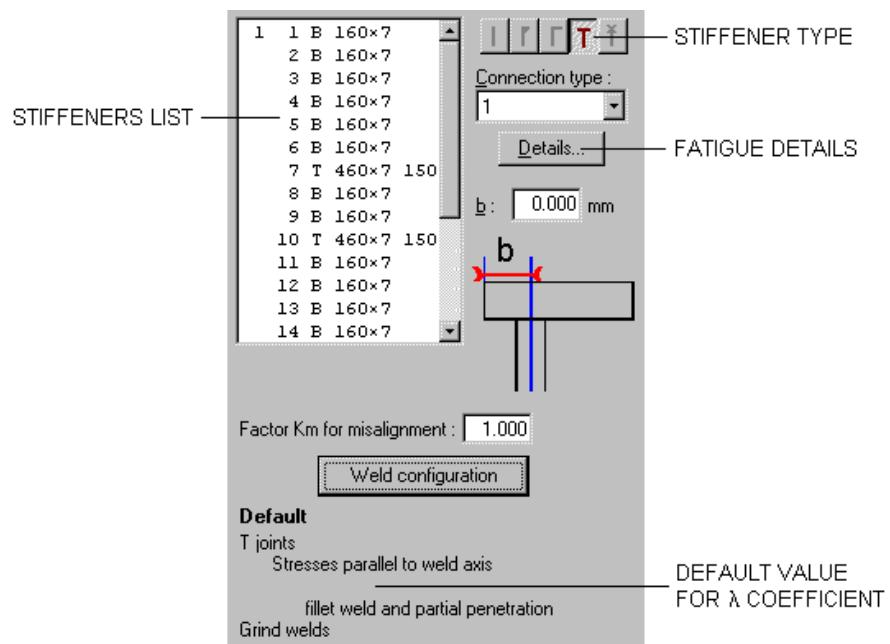

Figure 42: FATIGUE MANAGEMENT WINDOW
- the details... button (Figure 42) which display a view of the connection type and of the collar plate with the relevant Kh and Ki coefficients ;
- the Connection type list (Figure 42)